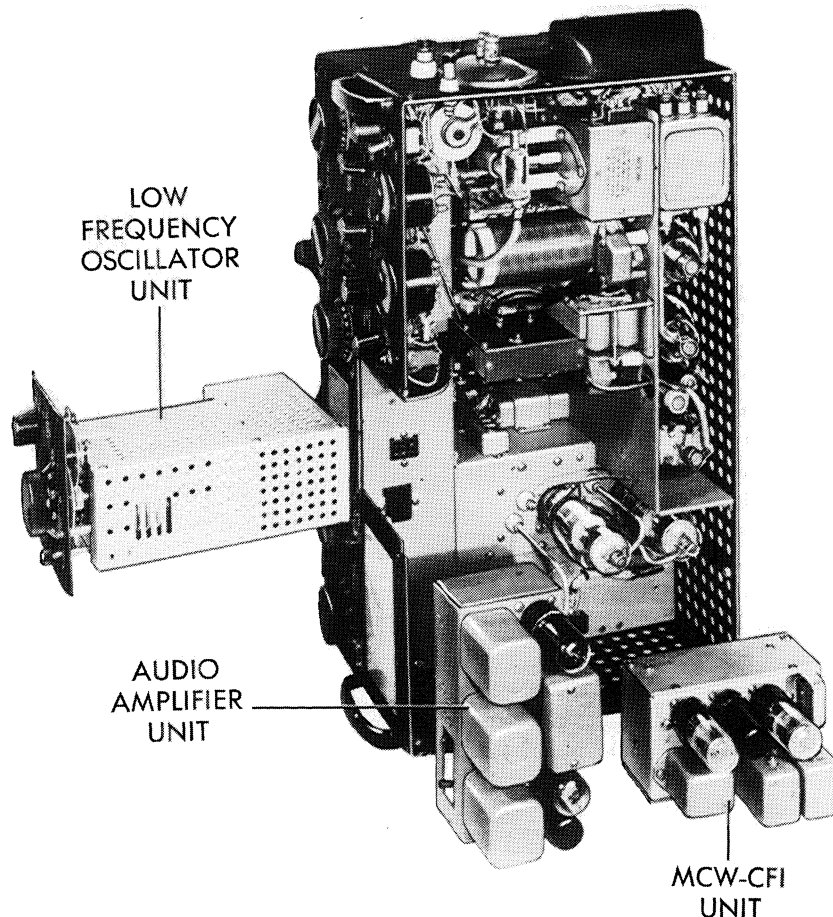

Figure 5-6. Radio Transmitter T-47A/ART-13 and Removable Units
(5) DISASSEMBLY OF TRANSMITTER UNIT.—The transmitter unit contains three major assemblies that are equipped with multi-terminal plugs to permit removal without unsoldering any connections. These readily removable assemblies are the VFO Low Frequency Oscillator O-17/ART-13A (or in Model AN/ART-13B only, the CDA-T Crystal-Controlled Oscillator), the Audio Amplifier, and the MCW-CFI Unit. Figures 5-6 and 1-3A show the units removed from the equipment. Wrap-around sections and panels of the